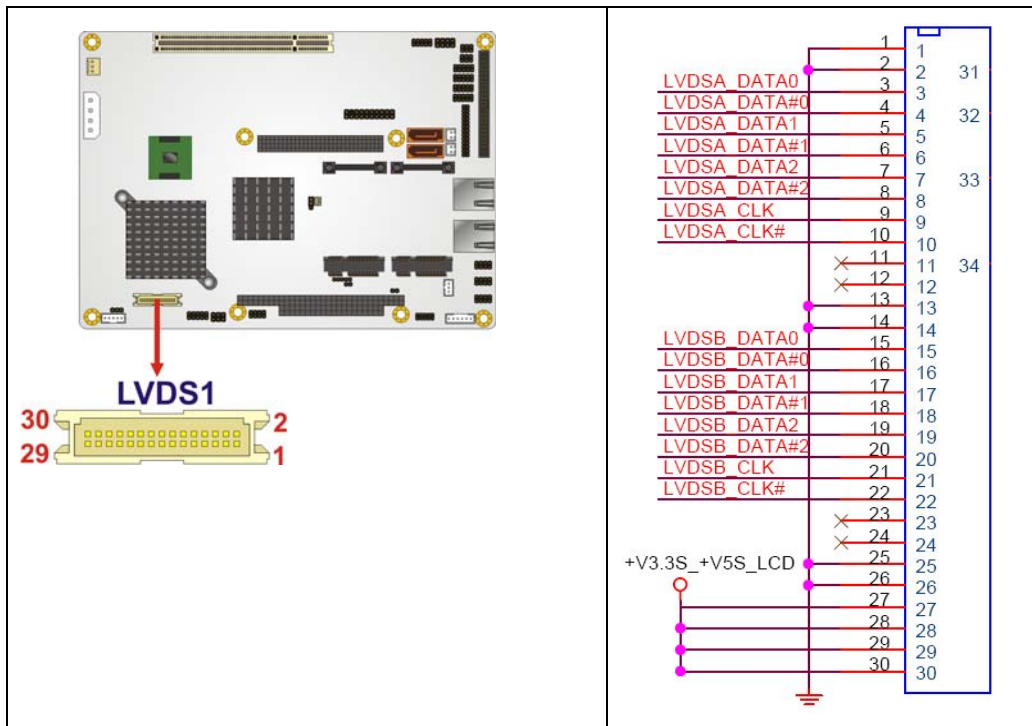

Figure 4-15: LVDS LCD Connector Pinout Location
- CN Location:** See **Figure 4-15**